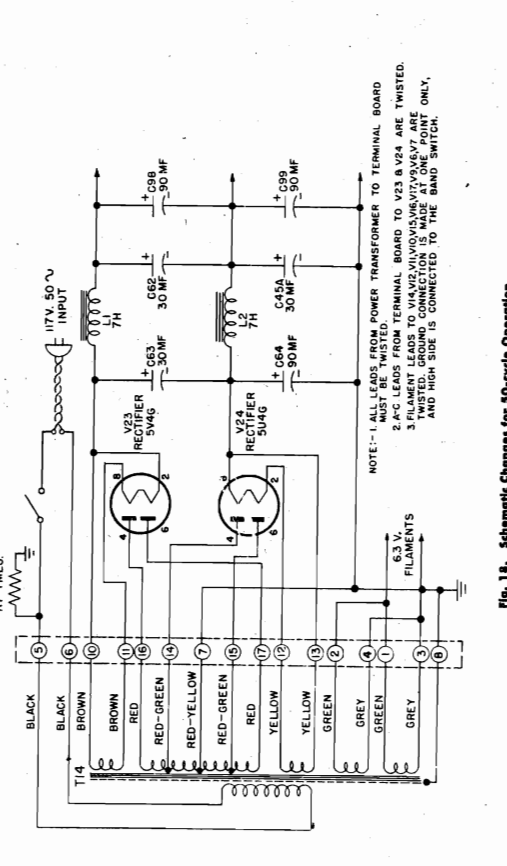

Fig. 18. Schematic Changes for 80-cycle Operation
The supplement schematic diagram, Figure 18, shows the wiring of the power transformer, T14, through the special terminal board installed. Also, it shows the addition of capacitors C98 and C99 required for additional filtering. The changes involved in changing from 60-cycle to 50-cycle operation are listed below:
2. All filament and high voltage leads are extended on the transformer and terminated at the chassis proper in a terminal board. The connection of these leads through this terminal board is shown in Figure 18. All leads are twisted.